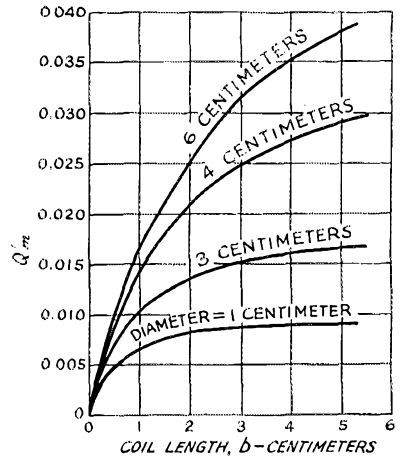
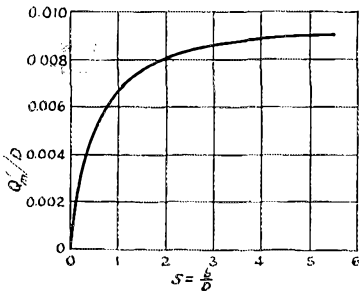

Fig. 4 — Plot of equation (2), showing the variation in Q with length and diameter of coil, when the wire size is kept at the optimum value.
Fig. 5 — Plot of equation (2) showing the variation in Q with the length/diameter ratio, when the wire diameter is optimum and the coil diameter is constant.
provided that the wire size is maintained at the optimum value. This equation is plotted in Figs. 4 and 5. Fig. 4 illustrates how the Q varies with length and diameter of the coil and Fig. 5 shows the variation in Q with the length/diameter ratio for a constant coil diameter. In the derivation of this relationship the effect of radiation was neglected and consequently equation (2) holds only when the maximum coil dimension is very small compared with the wavelength at which the coil is to be used.
It appears from equation (2) and from Fig. 4 that, when no economic limit is placed upon the coil dimensions, the Q increases as the diameter and length of the coil are increased. For a constant diameter of coil the Q increases with increasing coil length, but the increase is less rapid as large values of b/D are obtained. If the b/D ratio is kept constant, the Q increases directly as the diameter of the coil.